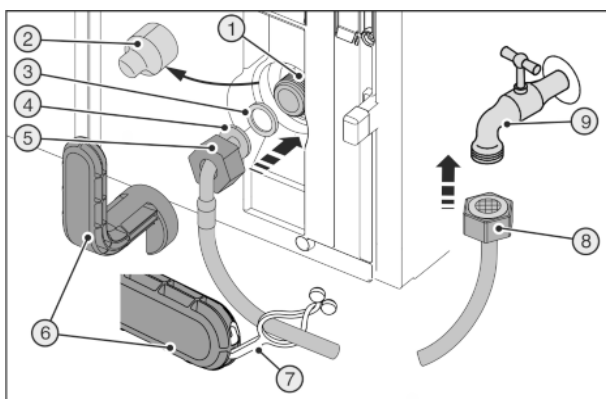
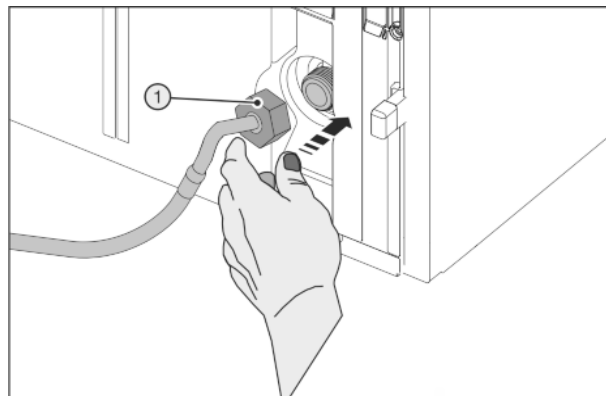

Fig. 28
Fig. 29
Broken auxiliary tool Fig. 28 (6).
- Only use an auxiliary tool Fig. 28 (6) at room temperature.
- Remove the cover Fig. 28 (2).
- Easy to fit: Place the straight end of the hose Fig. 28 (8) to the left on the floor.
- Slide the nut Fig. 28 (5) over the angled end of the hose Fig. 28 (4) up to the end and secure.
- Moisten Fig. 28 (3) the seal and push onto the nut Fig. 28 (5).
- ▷ The seal Fig. 28 (3) lies flat and is easily retained.
- Position the nut Fig. 29 (1) carefully and screw it directly onto the thread with two fingers until it is seated securely.
- Tighten the nut Fig. 29 (1) clockwise with the auxiliary tool Fig. 28 (6) until maximum torque is reached and the auxiliary tool Fig. 28 (6) overtightens.
- Screw the nut Fig. 28 (8) onto the stopcock Fig. 28 (9).
- Tighten the nut Fig. 28 (8) clockwise with the auxiliary tool Fig. 28 (6) until maximum torque is reached and the auxiliary tool Fig. 28 (6) overtightens.
- Turn the water supply stopcock Fig. 28 (9) on and check the whole water system for leaks.
- Hook the clip Fig. 28 (7) into the auxiliary tool Fig. 28 (6) and fix it to the stainless steel pipe to store it.